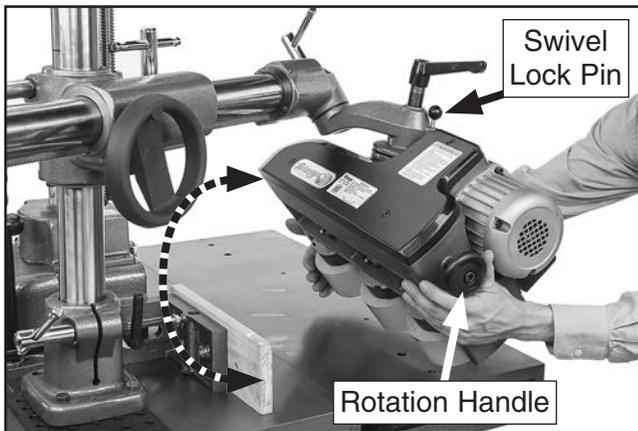

Figure 26. Rotating power feeder for vertical or incline feeding.
4. While holding onto rotation handle with one hand, disengage swivel lock pin, rotate power feeder clockwise (flip it upside down) so it is oriented as shown in **Figure 26**, then move it back over table and up against fence.